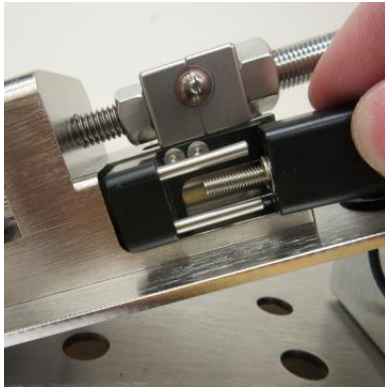

Figure 13: Remove Sensor
- Using the sensor adjustment screw, completely remove sensor. (Fig 13)